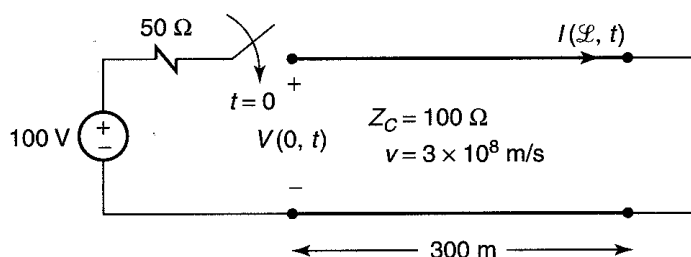

Figure P6.2.11 Problem 6.2.11.
6.2.11. Sketch the input voltage to the line, $V(0, t)$, and the load current, $I(\mathcal{L}, t)$, for the problem depicted in Fig. P6.2.11 for $0 < t < 10$ μ s. What should these plots converge to in the steady state?